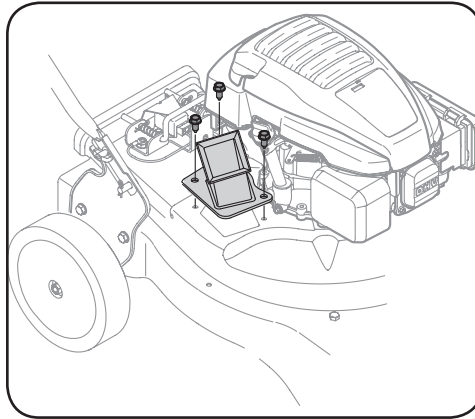

Figure 7-7
8. Remove the three hex cap screws holding the hose hanger bracket and chipper chute to the upper housing. See Figure 7-7.